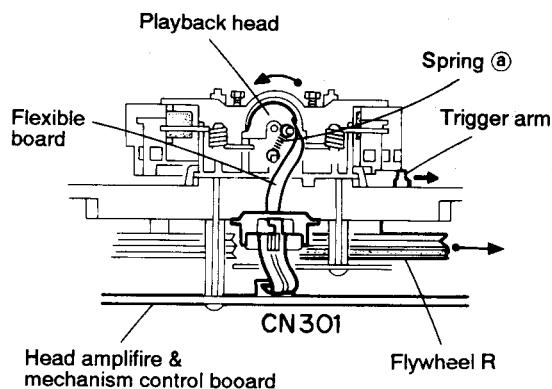
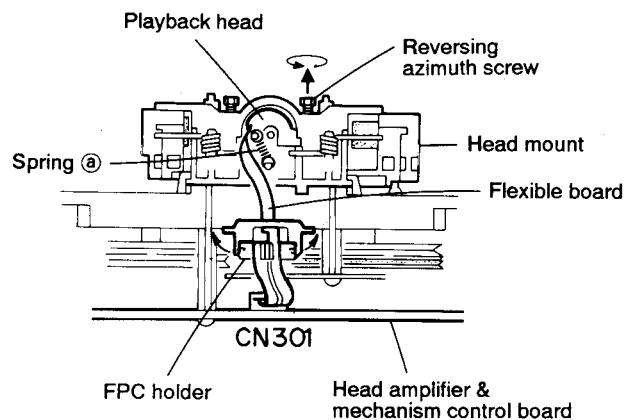

Fig.5-25 (Mechanism A side)
Fig.5-26 (Mechanism B side)
2. When the flywheel R is rotated in counterclockwise direction, the playback head will be turned in counterclockwise direction from the position in Fig. 5-25 to that in Fig. 5-26.
6. Remove the spring ④ from behind the playback head.
1. Reassemble the playback head from the front of the head mount to the position as shown in Fig. 5-26.
3. Set the spring ④ from behind the playback head.
4. Attach the flexible P.C. board to the chassis base, and fix it with the FPC holder as shown in Fig. 5-26.